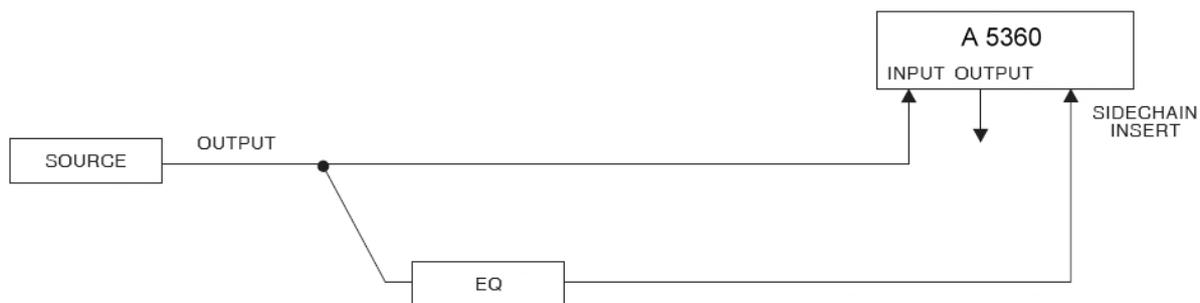

Figure 3: Frequency-Weighted Compression
For example, to set up you're A 5360 for frequency-sensitive gating or frequency-weighted compression, you must feed an equalizer's input with the same signal fed to the A 5360's INPUT, and then connect the equalizer's output to the A 5360's SIDECHAIN INSERT jack (Figure 3). Providing the signal to both the A 5360's INPUT and the equalizer can be accomplished in several different ways: (1) use an insert cable plugged into the SIDECHAIN INSERT jack. The SEND goes to the input of the EQ. The RETURN goes to the output of the EQ; (2) use a Y-cable to feed the audio source to both the A5360 INPUT and the equalizer input; (3) feed the signal to one of the A 5360's INPUT jacks and use the compressor channel's parallel INPUT jack to drive the equalizer (e.g., if the audio source feeds into Channel 1's 1/4" INPUT jack, use Channel 1's XLR INPUT jack to feed the signal to the equalizer); (4) if the audio source can internally split its output signal (e.g., some synthesizers can send the same signal from two outputs), plug a cable into each output and feed one cable to the A 5360 INPUT and the other to the equalizer.